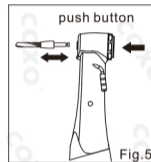

Fig.5
- 4) To remove the bur, depress the push button and remove the bur (Fig.5).